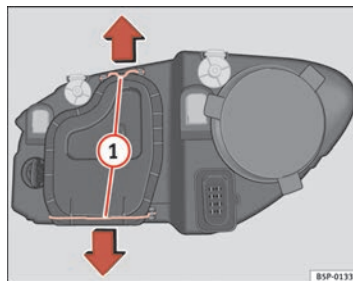

Fig. 185 Dipped beam headlights
- Remove the loops ⇒ page 274, fig. 185 ① in the direction of the arrow and remove the cover.